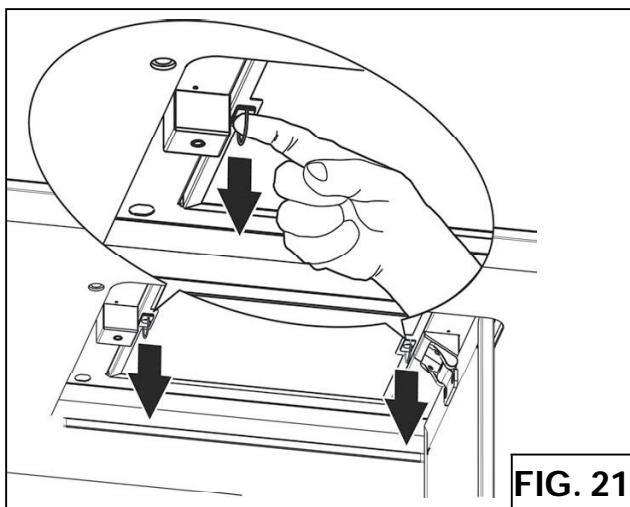
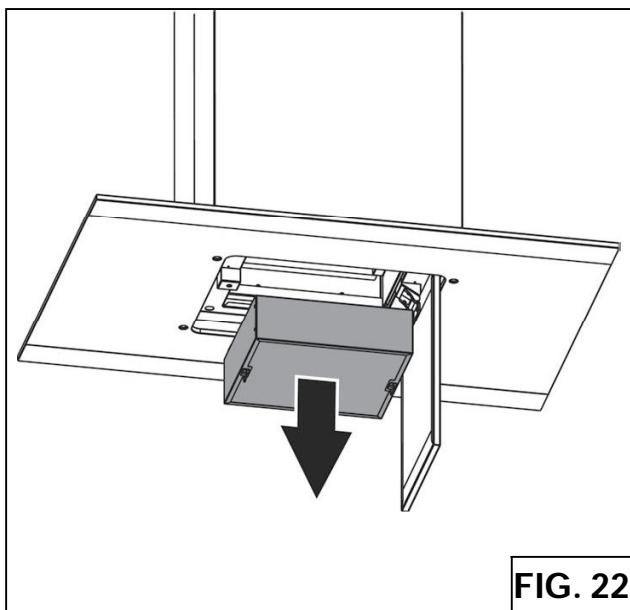
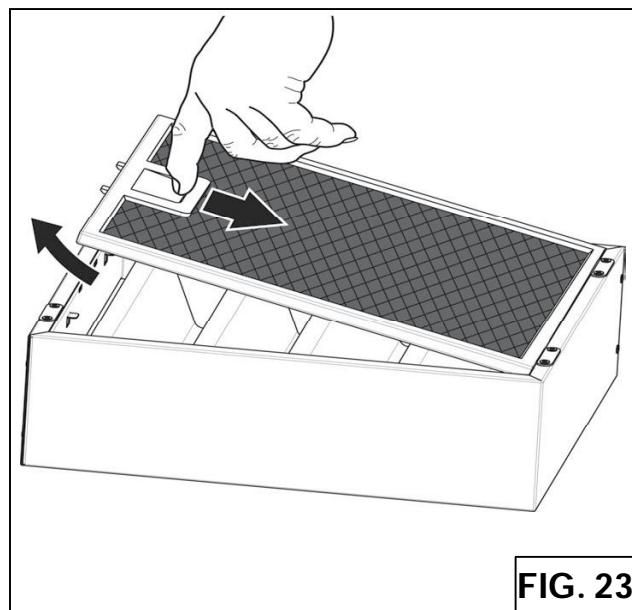

FIG. 21
FIG. 22
FIG. 23
3. Pull down the handle (Fig.21) to disengage the grease filter. Pull down the wave filter using the lateral handles (Fig.22) and see page 5 for cleaning instructions.
2. Remove the wave filter (Fig.22) using the lateral handlings and engage the charcoal filter as shown in Fig.23.